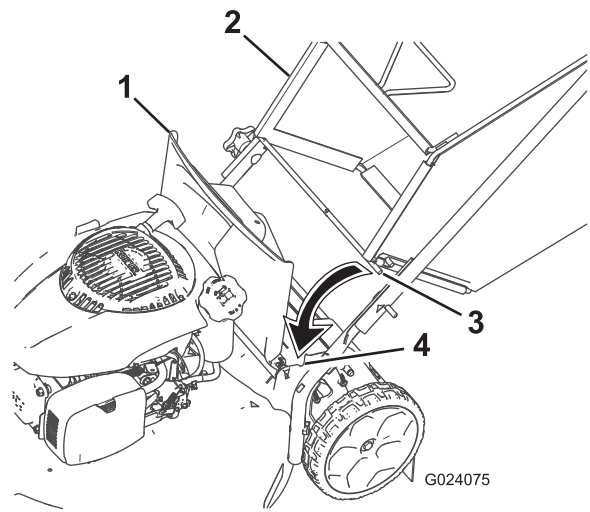

Figure 19
2. Insert the rod ends of the grass bag into the notches in the handle brackets (Figure 19).
1. Lift up the rear deflector (Figure 19).